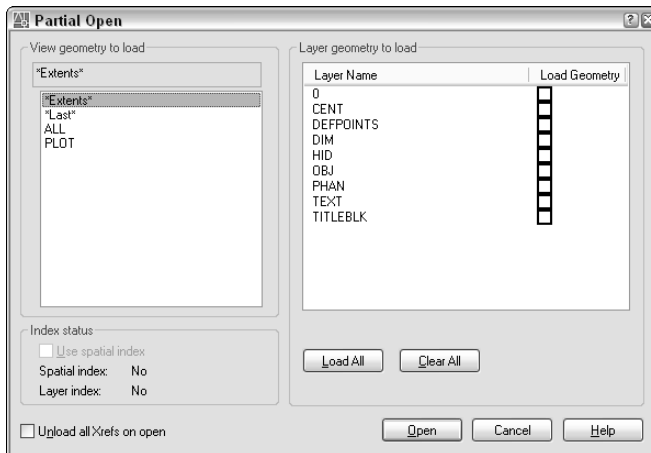

Figure 8-10: Use the Partial Open dialog box to open only the part of a drawing contained in a named view.
2. Choose a drawing and then click the Open button's drop-down box. Choose Partial Open to open the Partial Open dialog box, shown in Figure 8-10.